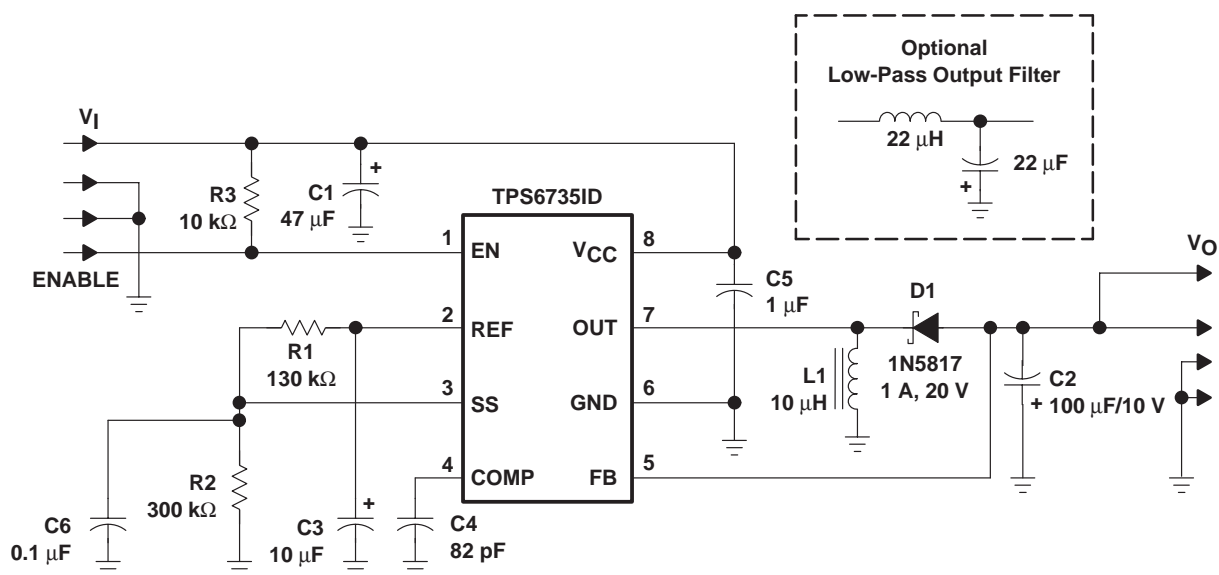

Figure 15. Application Circuit
**electrical characteristics over recommended operating free-air temperature range,  $V_{CC} = 5\text{ V}$ ,  $I_O = 0$ ,  $EN = 5\text{ V}$ , typical values are at  $T_A = 25^\circ\text{C}$  (unless otherwise noted) (refer to Figure 15)**
**performance characteristics over recommended operating free-air temperature range, typical values at  $T_A = 25^\circ\text{C}$  (unless otherwise noted) (refer to Figure 15)**
The TPS6735 operates in the voltage-inverting circuit, shown in Figure 15, which can generate a -5-V output. The circuit is ideal for applications that require a negative polarity voltage on the output with respect to the input ground, and for energy management systems. The TPS6735 can be placed in a shutdown mode (1-μA quiescent current) by forcing EN low.
A low-pass filter may be added to the converter output to reduce the output voltage ripple (see Figure 15). The LC filter has a cutoff frequency of 7.2 kHz. The inductor filter must have a low resistance to avoid large output voltage drops. The output voltage ripple is reduced to 5 mV when the LC output filter is used. FB must be connected to the output node before the connection for the low-pass filter.